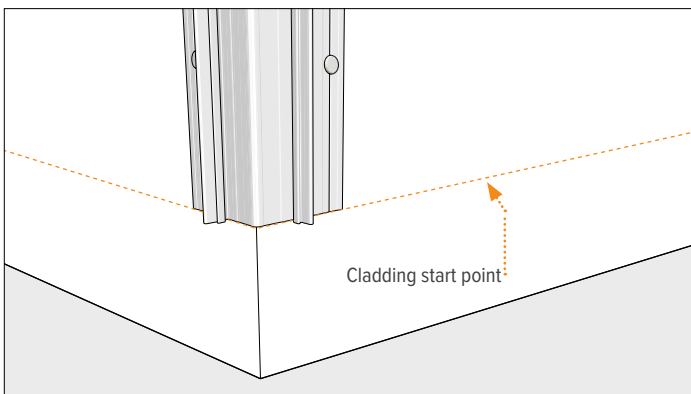

Figure 13.2
2. Place the bottom of the EZ.12 outside corner back plate at the cladding start point and fasten. (Figure 13.2) (See **Fastening Info**).